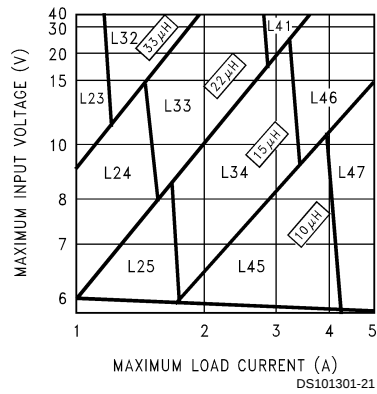
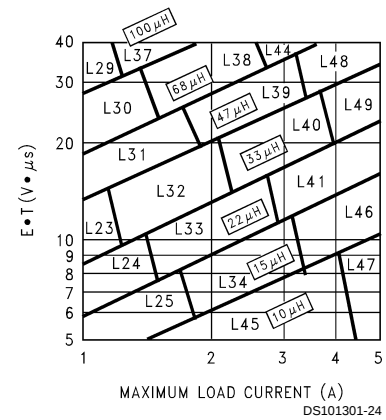

FIGURE 3. LM2677-3.3
FIGURE 6. LM2677-ADJ
Step 3: Determine the inductor required by using one of the four nomographs, *Figure 3* through *Figure 6*. Table 1 provides a specific manufacturer and part number for the inductor.
Step 5: Determine an input capacitor from Table 4 for fixed output voltage applications. Use Table 2 to find the specific capacitor type. For adjustable output circuits select a capacitor from Table 2 with a sufficient working voltage (WV) rating greater than $V_{in\ max}$, and an rms current rating greater than one-half the maximum load current (2 or more capacitors in parallel may be required).
Step 3: Use the nomograph for the 3.3V device, *Figure 3*. The intersection of the 16V horizontal line ($V_{in\ max}$) and the 2.5A vertical line ($I_{load\ max}$) indicates that L33, a 22μH inductor, is required.
Step 3: To use the nomograph for the adjustable device, *Figure 6*, requires a calculation of the inductor Volt•microsecond constant ($E \cdot T$ expressed in $V \cdot \mu S$) from the following formula:
Using *Figure 6*, the intersection of $27V \cdot \mu s$ horizontally and the $2A$ vertical line ($I_{load \max}$) indicates that L38, a $68\mu H$ inductor, should be used.
Important Note: When using the adjustable device in low voltage applications (less than $3V$ output), if the nomograph, *Figure 6*, selects an inductance of $22\mu H$ or less, Table 6 does not provide an output capacitor solution. With these conditions the number of output capacitors required for stable operation becomes impractical. It is recommended to use either a $33\mu H$ or $47\mu H$ inductor and the output capacitors from Table 6.